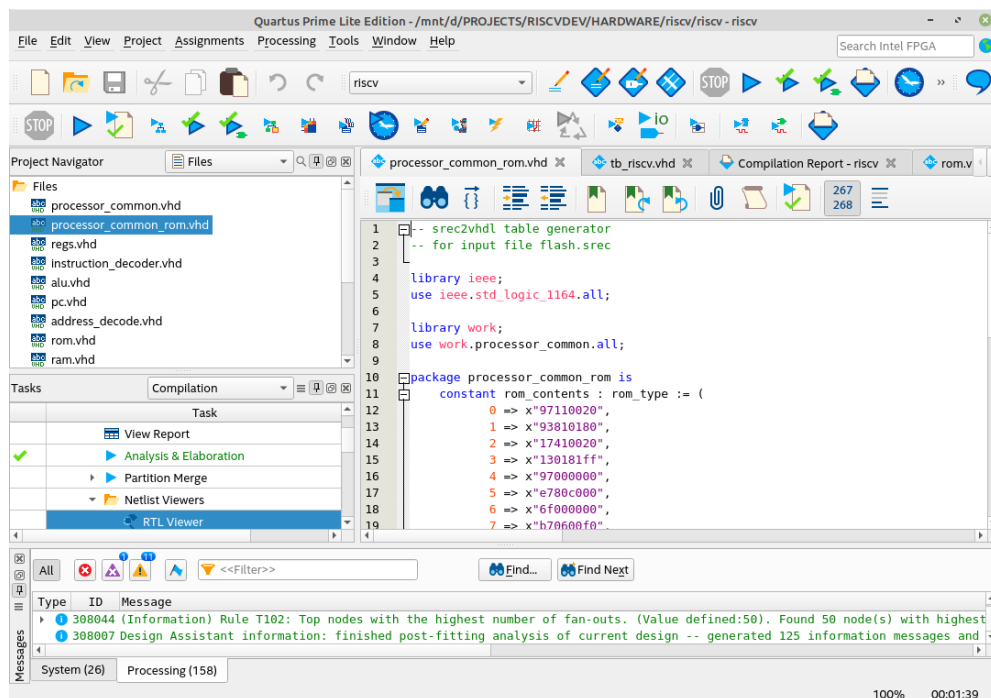

Figure 5: Image of the Quartus project (1).
- Now start the compilation of the VHDL code in Quartus Prime Lite and program the compiled file. This file has the extension .sof. See Figures 5 to 7.